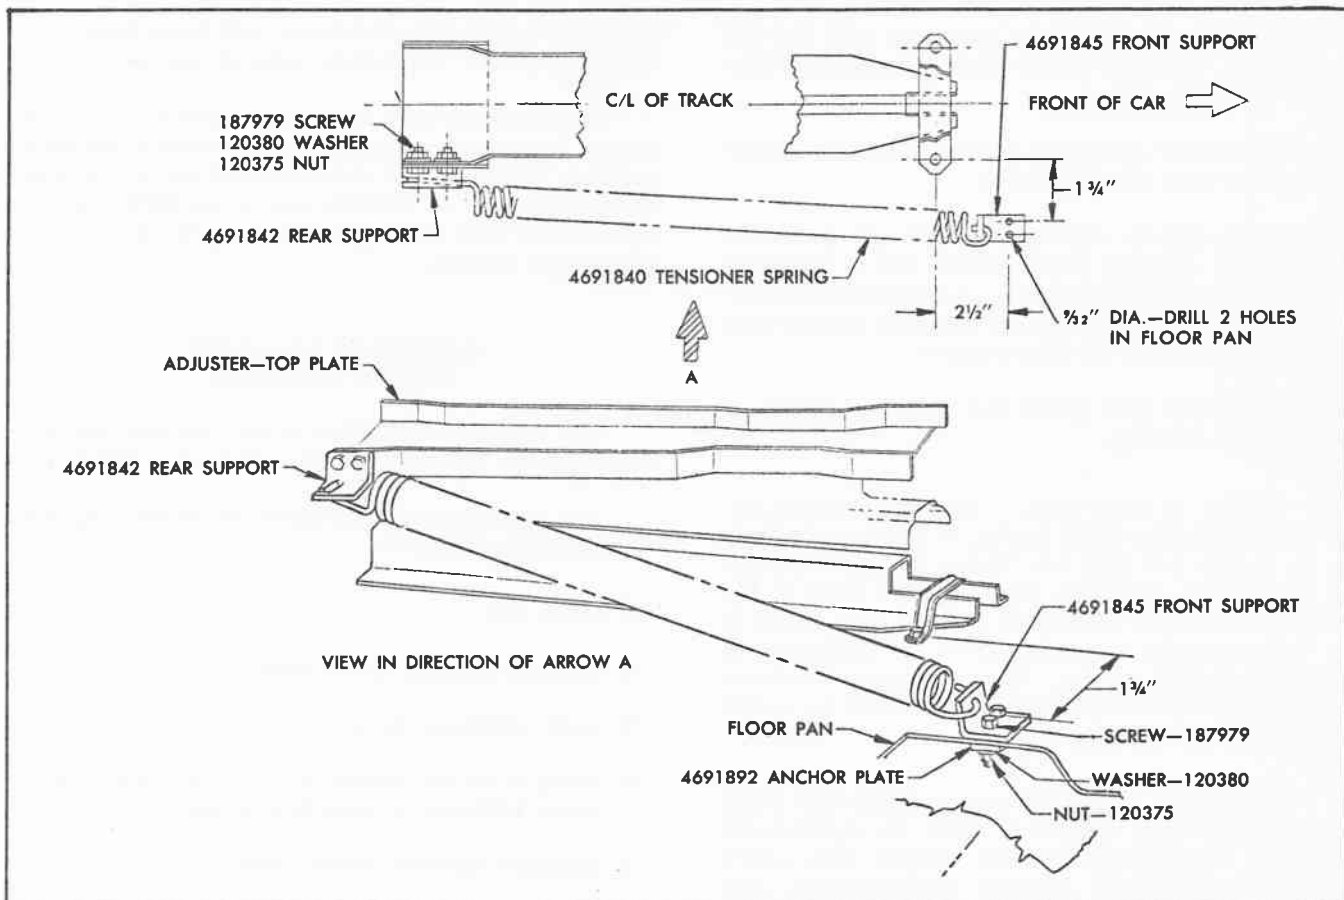

Fig. 4 Tensioner Spring Installation Drawing
2. Remove left lower seat side panel; then bend the seat side panel attaching tab downward sufficiently to permit drilling two (2) holes in the top plate as shown in Fig. 4.
3. Locate rear support/flush with the top and rear edge of left seat adjuster top plate, as shown in the drawing; then, clamp support securely to top plate. Using the holes in the rear support as a guide, drill two (2) 9/32 inch diameter holes through seat adjuster top plate; then secure rear support to seat adjuster top plate with two (2) screws, washers and nuts. Bend seat side panel rear attaching tab to original location.
4. Operate seat rearward, rear edge downward and front edge to the extreme upward position; then turn back front floor covering to expose floor pan at tensioner spring front support attaching location. See Fig. 4.
5. Drill two (2) 9/32 inch diameter holes in floor pan at the locations indicated in the drawing; then
secure front support to floor pan with two (2) screws, washers, anchor plate and attaching nuts as shown in Fig. 4.